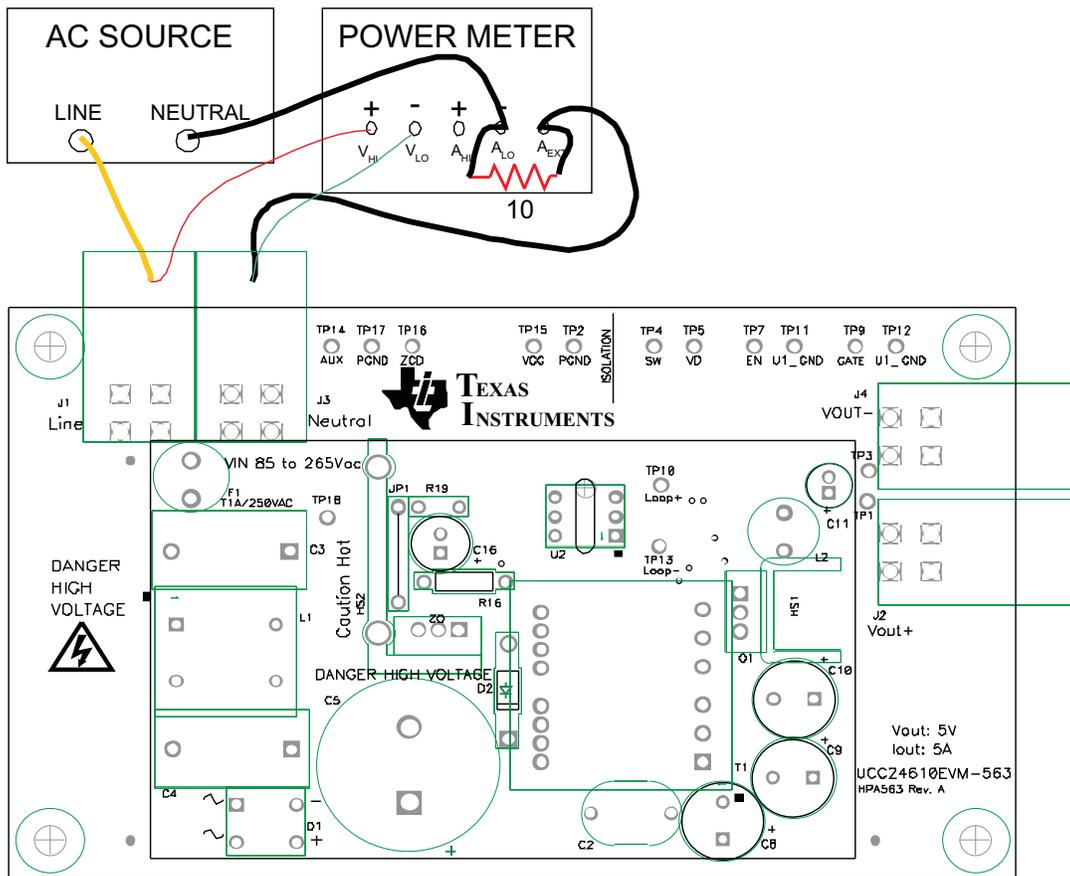
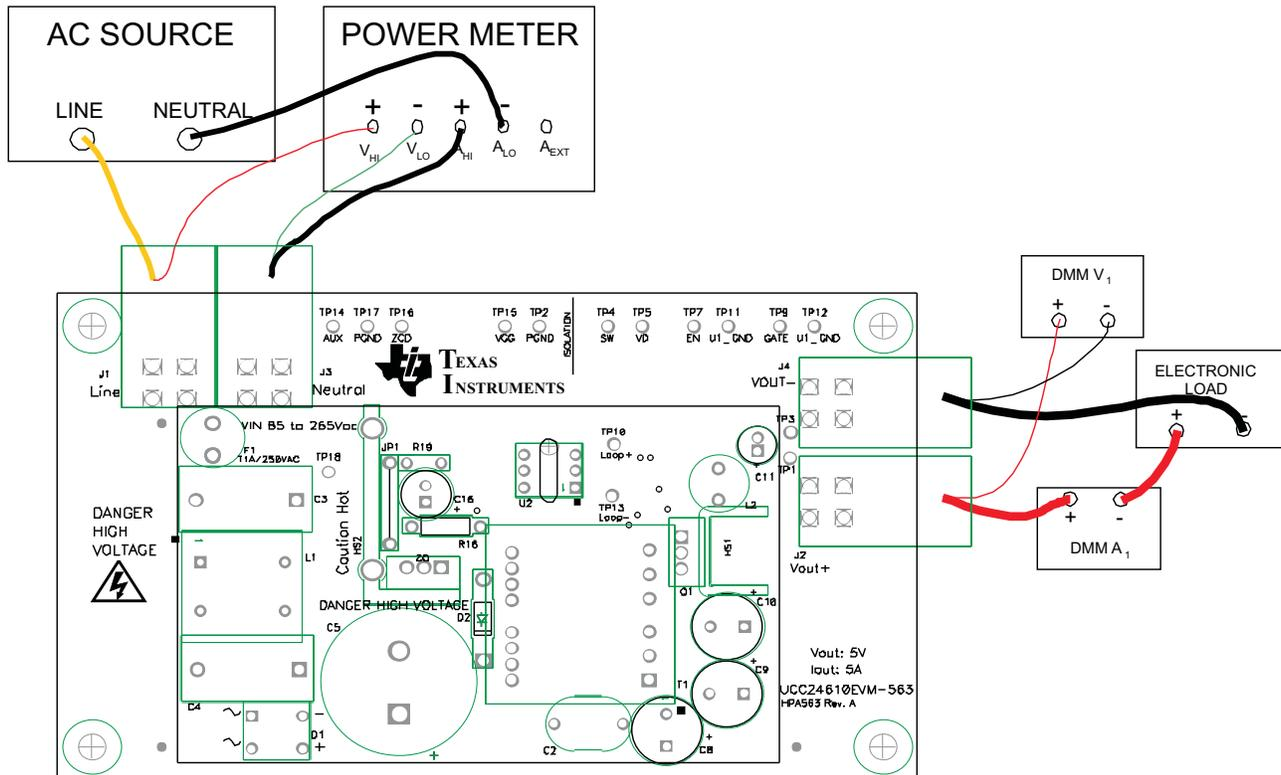

Figure 2. Recommended Test Set Up Without a Load.
Figure 3. Recommended Test Set Up With a Load.
Figure 2 shows the equipment set up when measuring the input power consumption during no load.
Notice the addition of the 10- Ω shunt resistor in Figure 2.
Figure 3 shows the basic test set up recommended to evaluate the UCC24610EVM-563 with a load.
See Figure 2 and Figure 3 for recommended test set ups.
- **AC Input Source:** The input source shall be an isolated variable AC source capable of supplying between 85 V_{RMS} and 265 V_{RMS} at no less than 30 W and connected as shown in Figure 2 and Figure 3. For accurate efficiency calculations, a power meter should be inserted between the neutral line of the AC source and the Neutral terminal of the EVM. For highest accuracy, connect the voltage terminals of the power meter directly across the Line and Neutral terminals of the EVM.
- **Load:** For the output load, a programmable electronic load set to constant current mode and capable of sinking 0 to 5 A_{DC} at 5 V_{DC} shall be used. For highest accuracy, V_{OUT} can be monitored by connecting a DC voltmeter, DMM V1, directly across the V_{OUT+} and V_{OUT-} terminals as shown in Figure 3. A DC current meter, DMM A1, should be placed in series with the electronic load for accurate output current measurements.
- **Power Meter:** The power analyzer shall be capable of measuring low input current, typically less than 50 mA, and a long averaging mode if low power standby mode input power measurements are to be taken. An example of such an analyzer is the Voltech PM100 Single Phase Power Analyzer. To measure the intermittent bursts of current and power drawn from the line during no-load operation, an external 10- Ω shunt, with a current scale factor of 10A/V, was used at a high sample rate over an extended period of time in order to display the averaged results (refer to Figure 2).
- (a) If no-load input power measurements are to be made, set the power analyzer to long averaging and external shunt mode. Insert a shunt, such as a 10- Ω resistor as shown in Figure 2, in series with the Neutral terminal of the EVM. Set the appropriate current scale on the power analyzer.
- (b) For operation with a load, as shown in Figure 3, set the electronic load to constant current mode to sink 0 A.
- (a) Use the test set up shown in Figure 3.